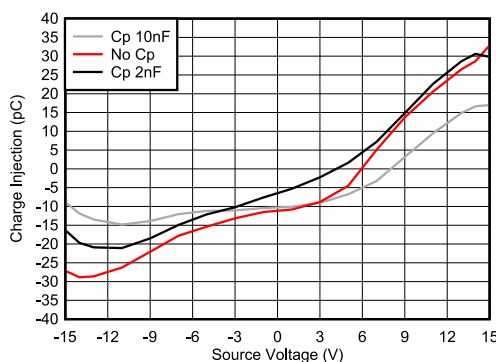

Figure 8-2. Charge Injection Compensation
The TMUX7219 contains specialized architecture to reduce charge injection on the source (Sx). To further reduce charge injection in a sensitive application, a compensation capacitor (C_p) can be added on the drain (D). This will ensure that excess charge from the switch transition will be pushed into the compensation capacitor on the drain (D) instead of the source (Sx). As a general rule, C_p should be 20× larger than the equivalent load capacitance on the source (Sx). Figure 8-2 shows charge injection variation with source voltage with different compensation capacitors on the drain side.